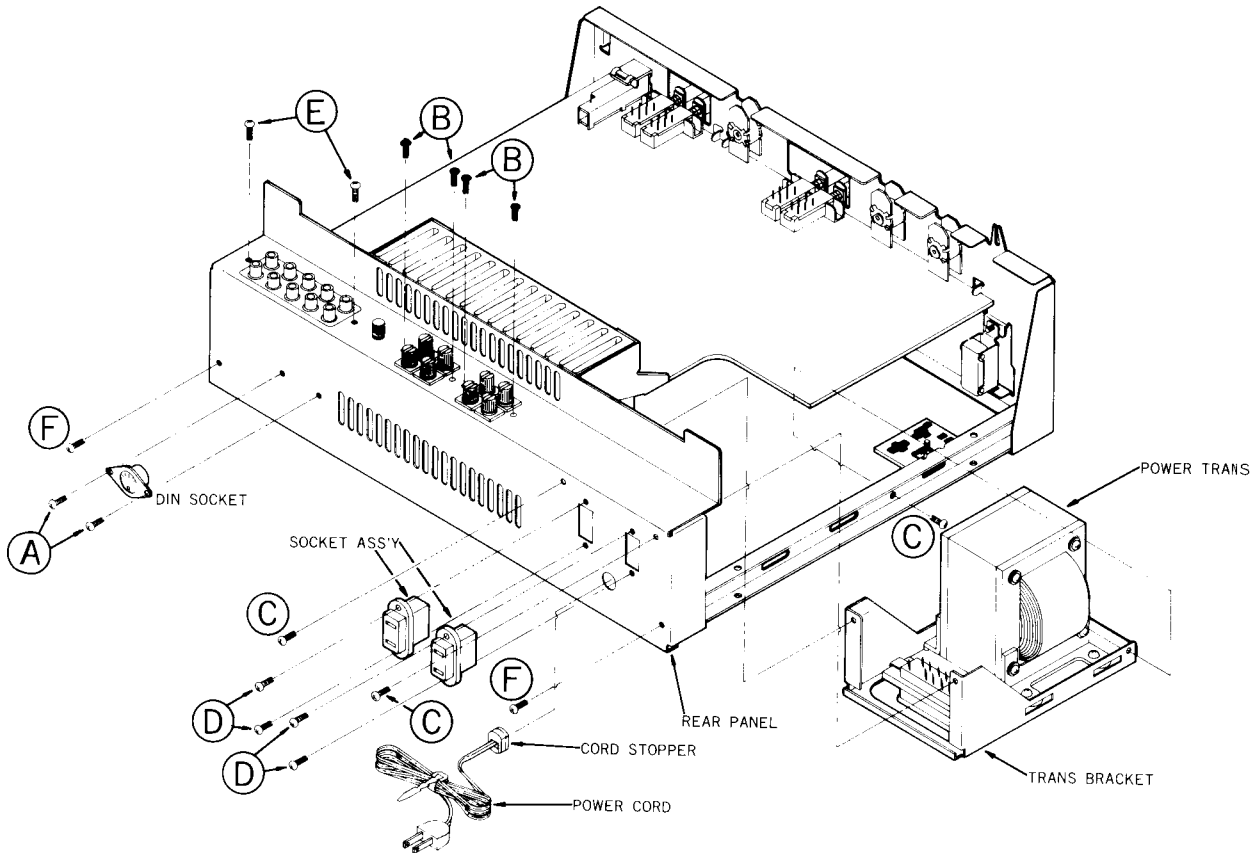

Fig. 7
1. First remove the top cover and bottom plate as shown in Fig. 7.
2. To replace the DIN socket and speaker terminals, remove the screws A and the plastic rivets B as shown in Fig. 7.